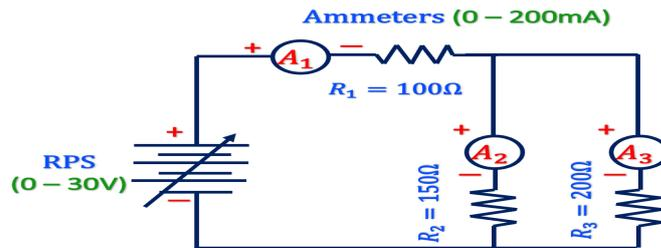

Figure 2.3. The Current Law, (KCL)
3. Part (3) Determine the theoretical current then set up of KCL for Figure 2.3 , and record all the currents in Table 2.3.
3. Part (3) Set up the circuit as shown in Figure 2.3. Apply a DC power supply of 15V and measure the currents (I, I1, I2) in the circuit (i.e. connect the voltmeters across these elements as shown in Figure 2.3) and complete table 2.3. Compare the values obtained from part 2 and part 3.